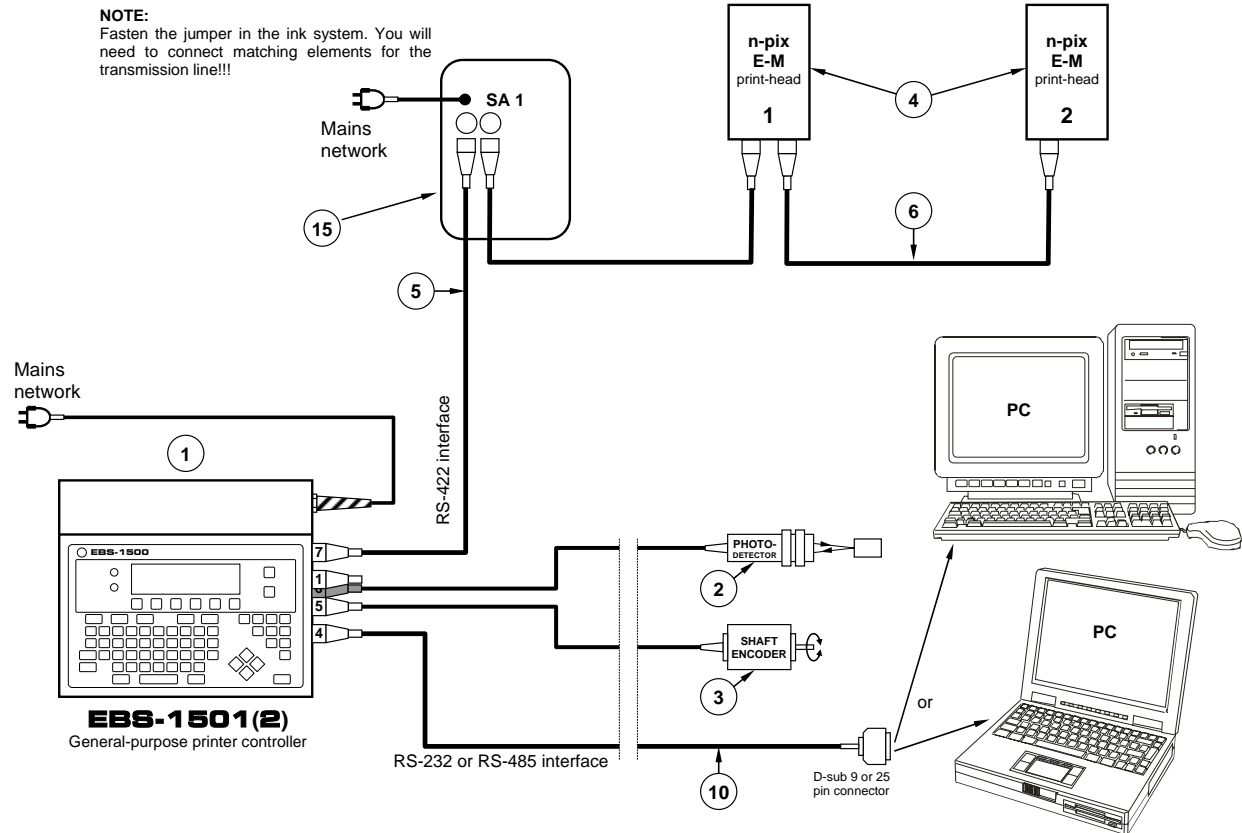

Fig. 4.2.3. Connection diagram for a printing system with two electromagnetic print-heads and one ink system with an ink pump
- The two-head printing system shown in **Fig. 4.2.3** is an illustration of how to connect the system elements. The system will work properly only when the requirements presented in section **4.1 Restrictions on Printing System Configuration** are satisfied and when it is designed in compliance with the guidelines given in section **4.7 Rules for designing a multi-head printing system**.